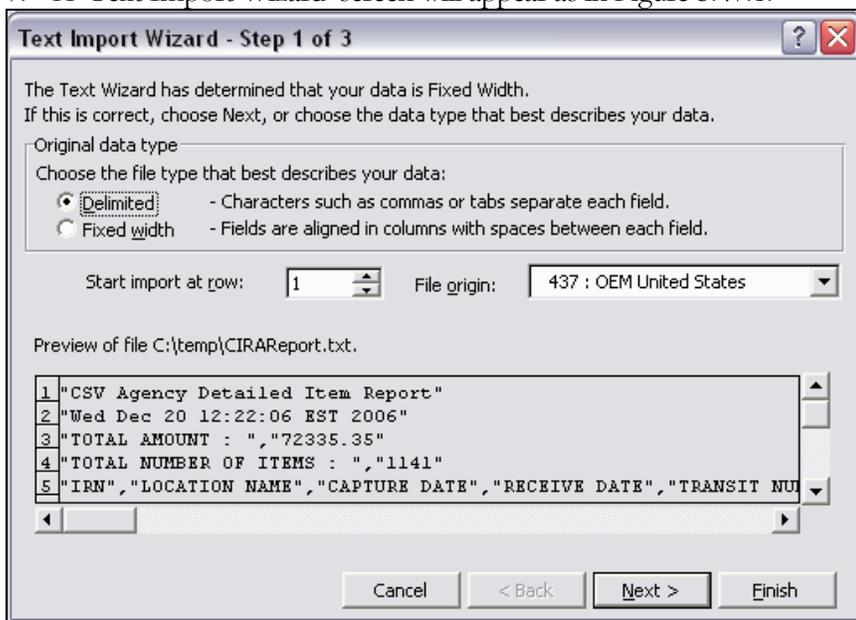

Figure 5.47.1
7. A 'Text Import Wizard' screen will appear as in Figure 5.47.1.